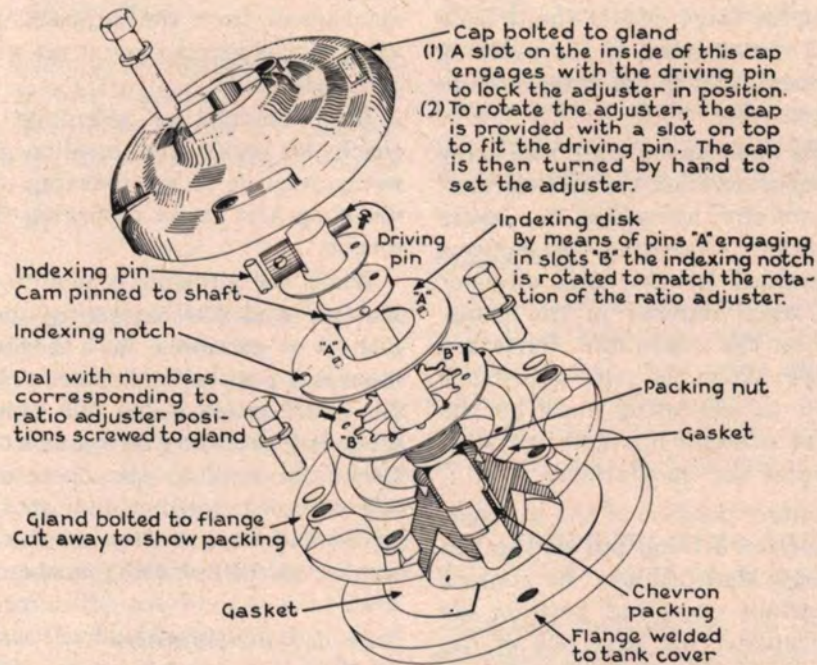

Fig. 7. Details of Operating Mechanism for Wedge-type Adjuster
#### *Wedge Type (See Fig. 7)*
Fig. 7 shows the parts of the operating mechanism and position-indicating device located either on the transformer tank wall or on the cover. Do not disturb the mechanism assembly unless it is necessary to tighten the stuffing box. If the relation of the pins (A) to the slots (B) is changed from the factory setting, wrong contact position and indicated tap change will result.